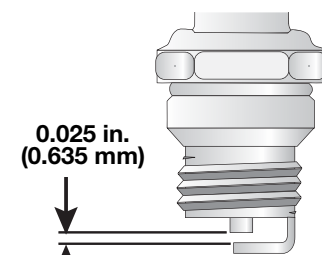

Fig. 34
4. Replace cracked, fouled or dirty spark plug. Set the air gap at **0.025 in. (0.635 mm)** using a feeler gauge (Fig. 34).